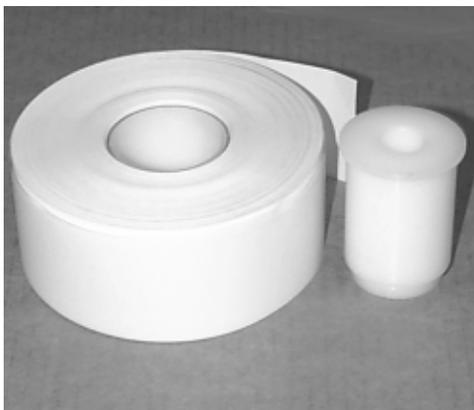

Figure 6-5A. The paper and paper spool.
5. Remove the tab securing the end of the new paper roll to itself. Use scissors to cut off all of the paper up to and including the glue tab. Insert the paper spool into the new roll of paper (as shown in Figures 6-5A and 6-5B). Use a 6-inch roll of 60-mm wide thermal paper. Be sure the paper spool is inserted so that the paper will feed **from the top of the roll** when it is installed on the paper bracket.